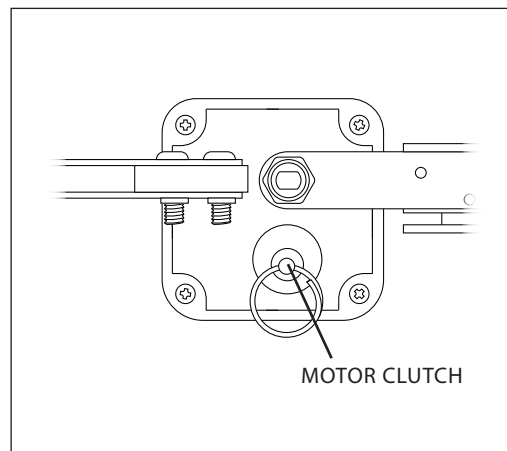

Figure 3 - Finding the MOTOR CLUTCH
2. Locate the MOTOR CLUTCH on the underside of your device (Fig 3,) and pull it outward by the keychain ring. The CONTROL ARM will disengage from the motor and move freely.
- ✓ The valve should be 5" away from any walls or other obstructions (Figure 3)